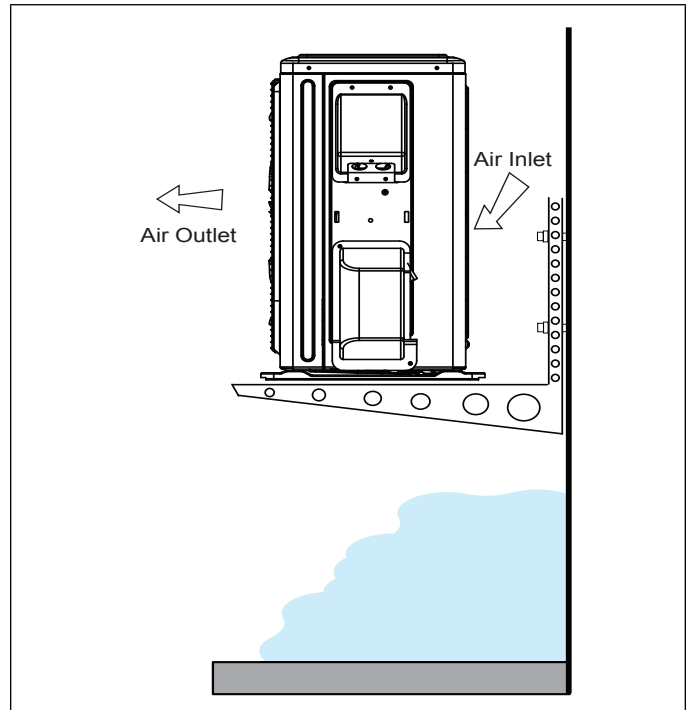

Figure 7. Outdoor Unit on Brackets above Snow Line
- The outdoor unit base should be elevated above the depth of average snows as illustrated in “Figure 7. Outdoor Unit on Brackets above Snow Line” on page 21.